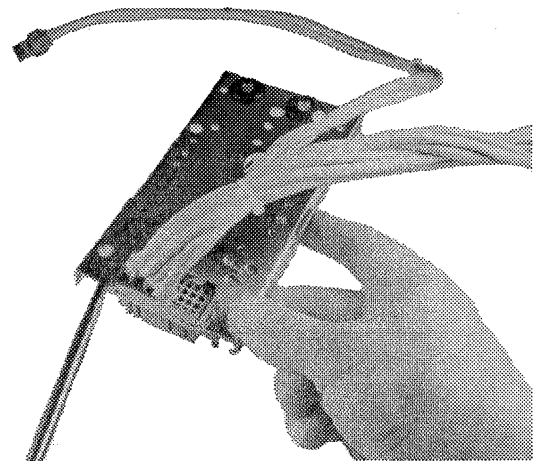

Figure 12. Locking tabs on mounting plate.
5. While holding the adapter bracket and connector assembly firmly in place against the mounting plate, bend the two locking tabs on the mounting plate into the mating notches on the adapter bracket using a screwdriver, as shown in Figure 12.